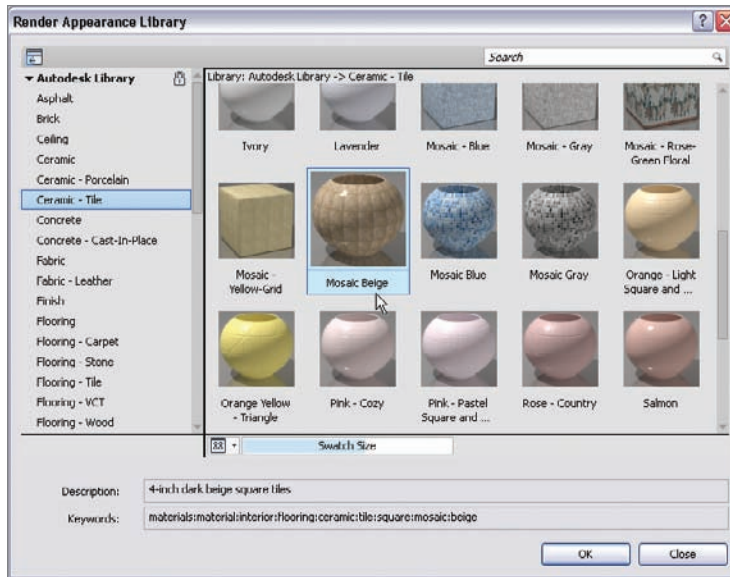

FIGURE 9.71 Adding a texture and .bmp mapping to your new kitchen floor
7. Click the Render Appearance tab, as shown in Figure 9.71.
9. From the Ceramic - Tile category of the Render Appearance Library dialog, select Mosaic Beige (see Figure 9.71).